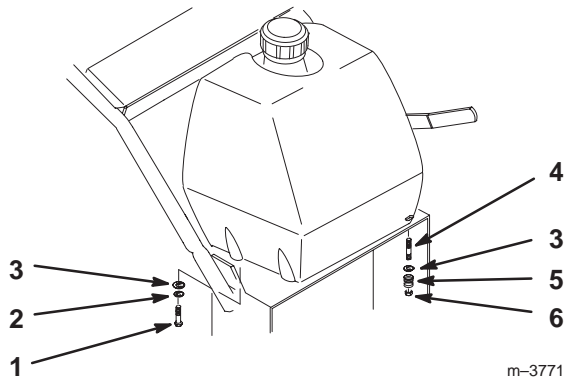

Figure 10
1. Align fuel tank to top of rear frame and secure fuel tank right side with (2) 5/16–18 x 7/8 in. (22.5 mm) bolts, (2) 5/16 lock washers and (2) 5/16 washers (Fig. 10).
3. Secure fuel tank left side to frame with (2) 5/16–18 x 7/8 in. (22.5 mm) studs, (2) 5/16 washers, (2) springs and (2) 5/16 locknuts (Fig. 10).